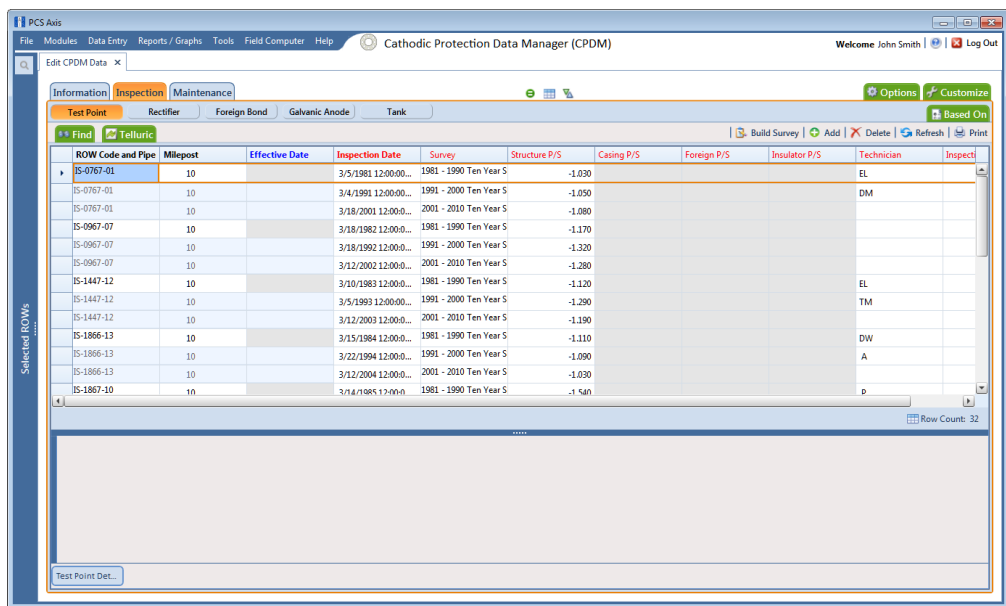

Figure 7-48. Test Point Inspection Grid
- 2 Open the *Edit <module> Data* window. For example, click **Data Entry > Edit CPDM Data** to open the *Edit CPDM Data* window (Figure 7-48).